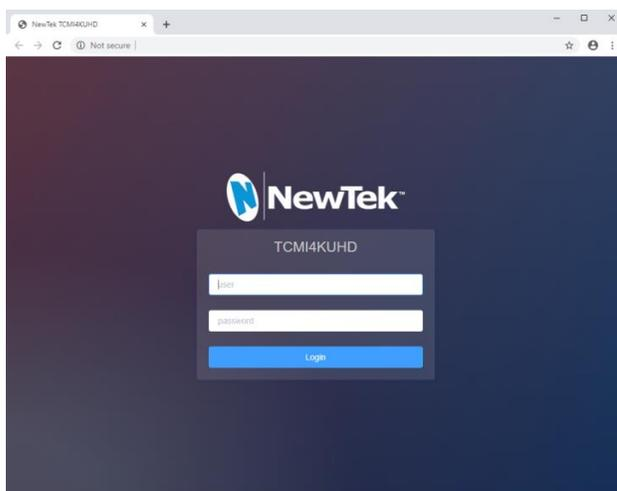

FIGURE 9
6. Log in to the webpage (Figure 9) using the default user name "admin" and password (also "admin").